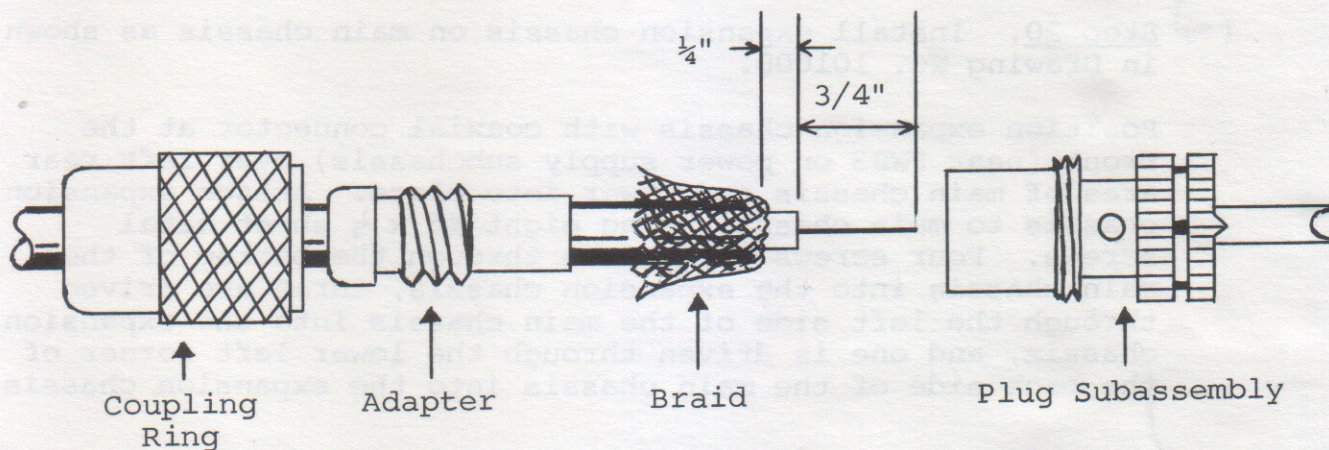

Figure 6-5. Sol-PC coaxial cable connector assembly.
- () Step 26. Install male coaxial connector on free end of coaxial cable that is connected to Sol-PC (the composite video output cable). Install connector as follows (refer to Figure 6-5):